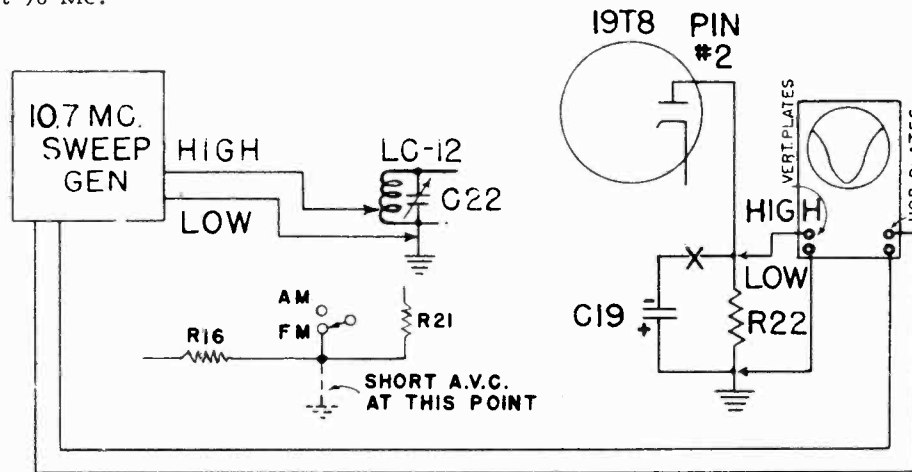

Fig. 6
8. Connect generator, high side, to mixer coil as in Fig. 6, low side to chassis.
\*\*\*On sets where T4 has been eliminated (Fig. 6) adjust R. F. by spacing of LC-12 at 106 Mc. and check for tracking at 90 Mc.